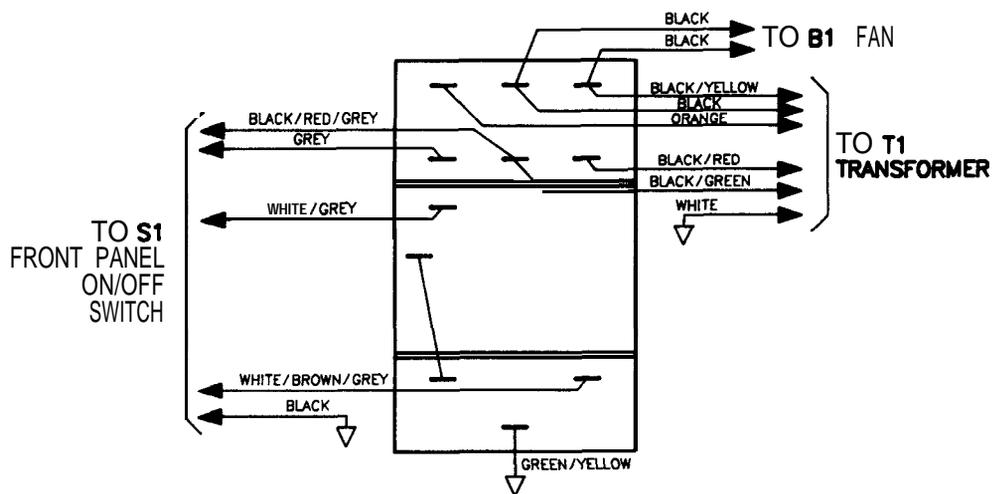

Figure 5-9. Wire Connections to Line Module FL1
Refer to Figure 5-9 and the following text to repair 3.5 mm connectors.
7. Remove transformer **T1**. When replacing the transformer, refer to Figure 5-9, which illustrates the locations of the various wires connected to line module **FL1**.